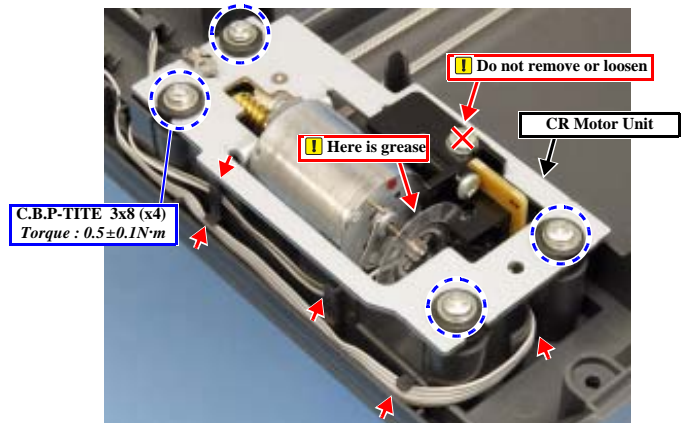

Figure 4-53. CR Motor Unit 2
- Do not remove or loosen the screw marked with X for the CR Motor Unit shown at right. Remember that the CR Motor Unit must be replaced with a new one if the encoder is shifted from the correct position. (Fig. 4-53)
- Route the harnesses as shown. (Fig. 4-52 , Fig. 4-53)